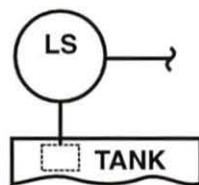

Figure 37. Level Sensing Element Symbol
1. Determine which type of level sensing element symbol is shown in figure 37.